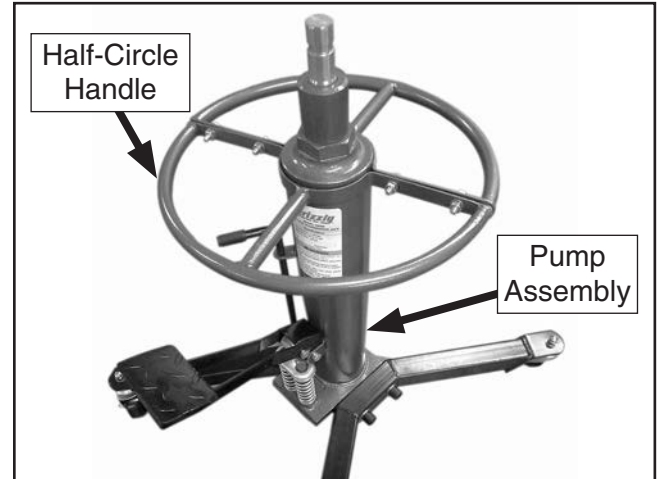

Figure 5. Half-circle handle secured at top of pump assembly.
3. Secure half-circle handle on top edge of pump assembly (see **Figure 5**) with pre-installed hex nuts and bolts.